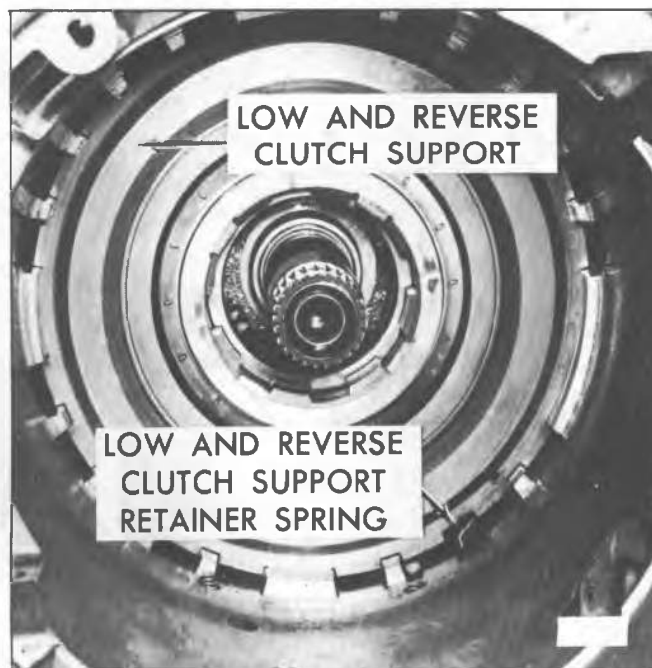

Fig. 7A-107B--Installing Low and Reverse Clutch Support Assembly
9. Install low and reverse clutch support assembly with position of notch with low and reverse clutch support retainer (anti-clunk) spring as shown on Figure 7A-107B.